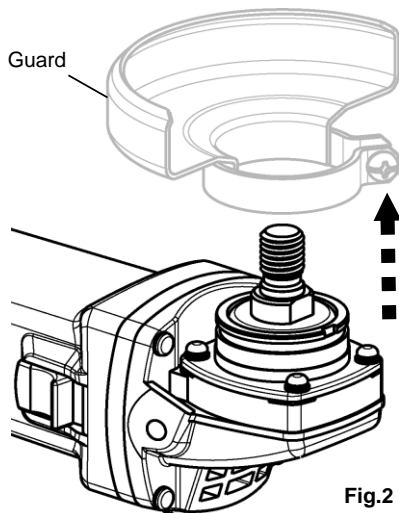

Fig.2
1. Detach the Guard from the Angle Grinder.(Fig.2)